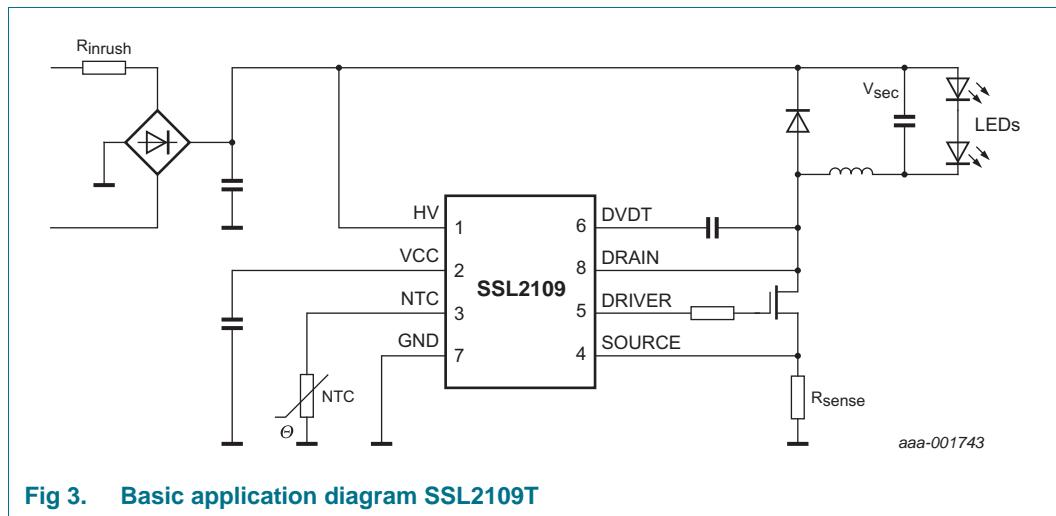

Fig 3. Basic application diagram SSL2109T
- Low component count (see Figure 3) LED driver solution:
The converter in the SSL2109T is a Boundary Conduction Mode (BCM), peak current controlled system. For the basic application diagram see Figure 3, for the waveforms see Figure 4. This converter type operates at the boundary between continuous and discontinuous mode. Energy is stored in inductor L each period that the switch is on. The inductor current I_L is zero when the MOSFET is switched on. Thereafter, the amplitude of the current build-up in L is proportional to $V_{IN} - V_{OUT}$ and the time that the MOSFET switch is on. When the MOSFET switch is switched off, the current continues to flow through the freewheel diode and the output capacitor. The current then falls at a rate proportional to the value of V_{OUT} . The LED current I_{LED} is almost equal to half the peak switch current. A new cycle is started, as soon as the inductor current I_L is zero.